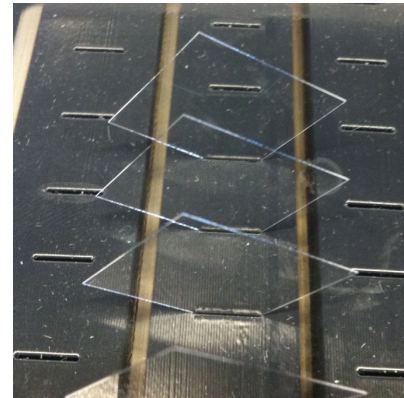

Figure 2. Cover glass in a drying rack.
- Store dipped coverslips at room temperature in a drying rack, such as shown in Figure 2.